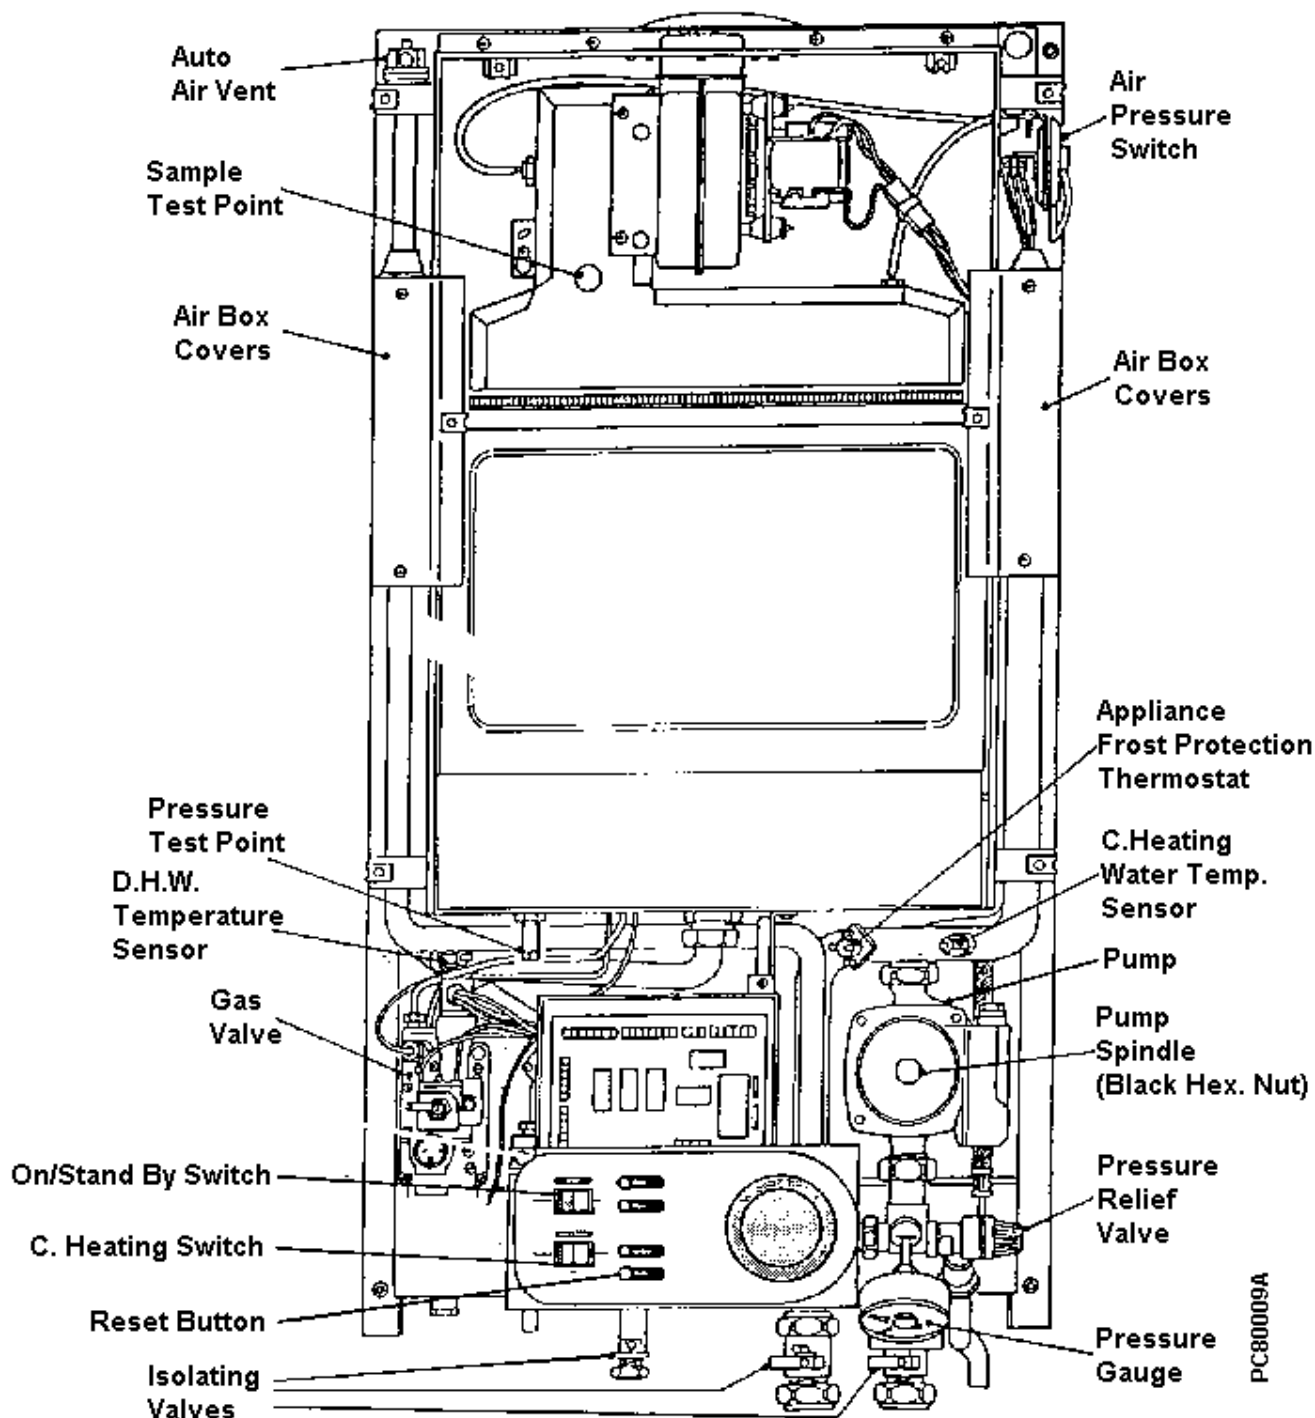

Fig. 11
9. Loosen or remove the outlet (burner) pressure test point screw in the gas valve body (Fig. 18), and connect via a flexible tube to the + or Hi side of pressure gauge. Then connect the - or Lo side of pressure gauge via another flexible tube to the pressure test point in the base of the inner casing. (Fig. 11)